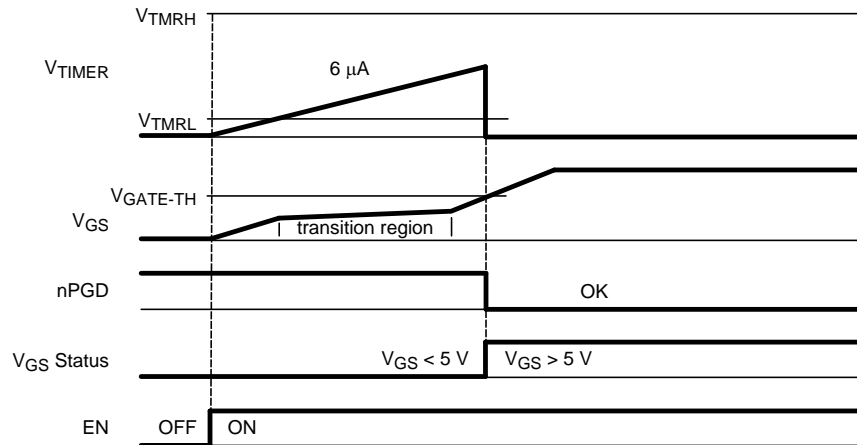
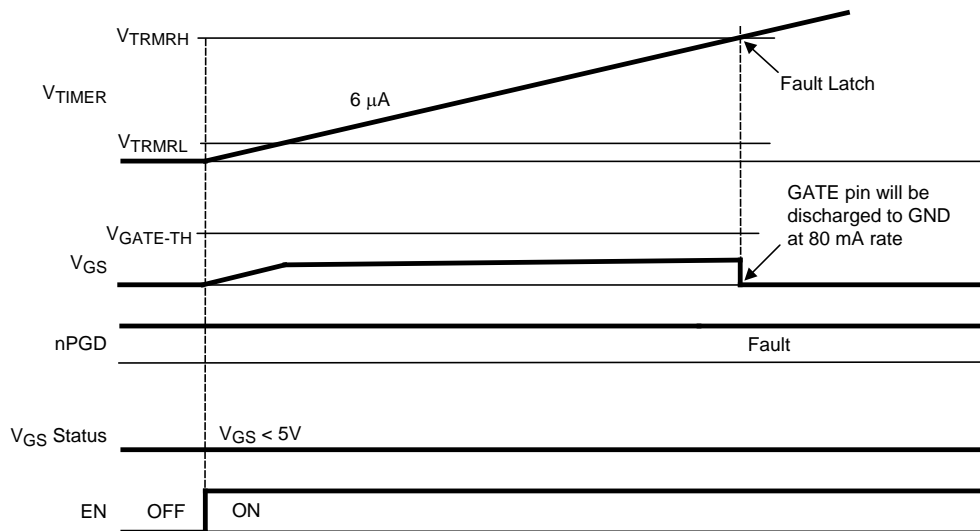

Figure 21. Voltages During Normal Start Up Sequence
Figure 22. Voltages During Startup With  $V_{GS}$  Gate Leakage Condition
The basic application circuit is shown in Figure 20 and a normal start-up sequence is shown in Figure 21. Start-up of the LM5060 is initiated when the EN pin is above the ( $EN_{THH}$ ) threshold (2.0 V). At start-up, the timer capacitor is charged with a 6- $\mu$ A (typical) current source while the gate of the external N-channel MOSFET is charged through the GATE pin by a 24- $\mu$ A (typical) current source.
After applying sufficient system voltage and enabling the LM5060 by pulling the EN and UVLO pins high, the timer capacitor will be charged with a 6- $\mu$ A (typical) current source. The timer capacitor is discharged when the voltage difference between the GATE pin and the OUT pin (i.e.  $V_{GS}$  of the external N-Channel MOSFET) reaches the  $V_{GATE-TH}$  threshold (typically 5 V). After discharging, the timer capacitor is charged with 11  $\mu$ A until either the  $V_{TMRH}$  threshold (typically 2 V) is reached, or the sensed  $V_{DS}$  voltage falls below the threshold of the  $V_{DS}$  Fault Comparator, indicating the output voltage has reached the desired steady state level. The timer capacitor voltage waveforms are illustrated in Figure 21, Figure 22, and Figure 23.
2. Figure 22 shows a start-up waveform with excessive gate leakage. The initial charge current on the timer capacitor is 6  $\mu\text{A}$  (typical), while the simultaneous charge current to the gate is 24  $\mu\text{A}$  (typical). Due to excessive gate leakage, the 24  $\mu\text{A}$  is not able to charge the gate to the required typical 5 V  $V_{GS}$  threshold and the  $V_{DS}$  Fault Comparator will indicate a fault when the timer capacitor is charged to the  $V_{TMRH}$  fault threshold. When the timer capacitor voltage reaches the  $V_{TMRH}$  fault threshold (typically 2 V) the MOSFET gate is discharged at an 80 mA (typical) rate.
After the OVP function has been activated and the gate of the external N-Channel MOSFET has been pulled low, the OUT pin is likely to be low as well. However, an OVP condition will not cause the  $V_{DS}$  Fault Comparator to latch off of the LM5060 because the capacitor on the TIMER pin is also discharged during an OVP event. After the OVP pin falls below the lower threshold (typically 1.76 V), the LM5060 will re-start as described in the normal start-up sequence and shown in Figure 21. The EN, VIN, or UVLO pins do not need to be toggled low to high to re-enable the MOSFET after an OVP event.